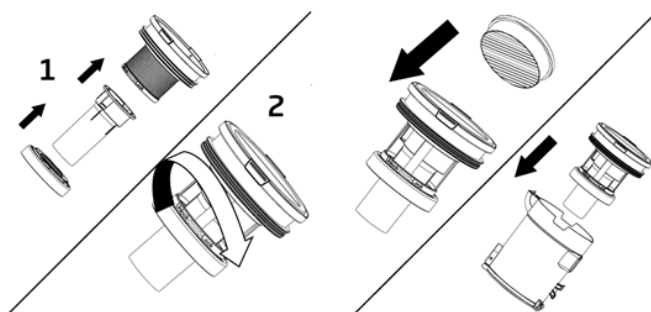

Fig. 18
6. When the filter and assembly are completely dry, reverse the above steps and refit the filter into the dust container and close the flap. In each case turn in the direction of the locked padlock symbol (Fig. 18).